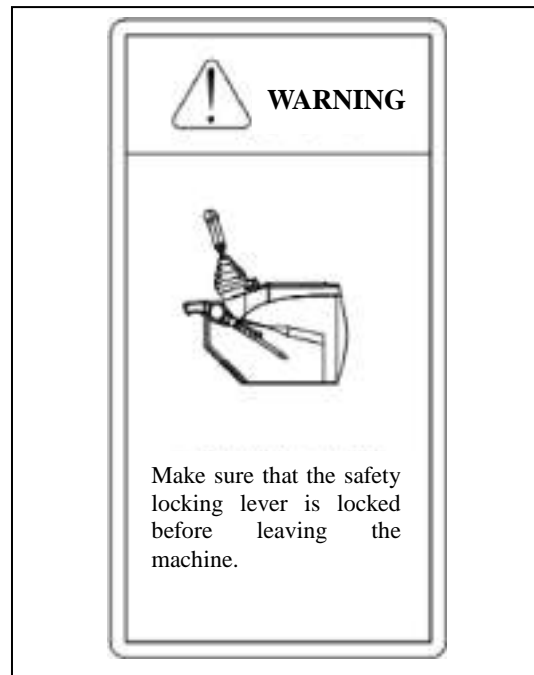

Figure 1-17 Warning before leaving the machine
(16) Warning before leaving the machine, as shown in Figure 1-17.